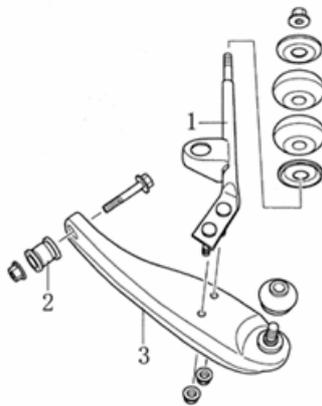
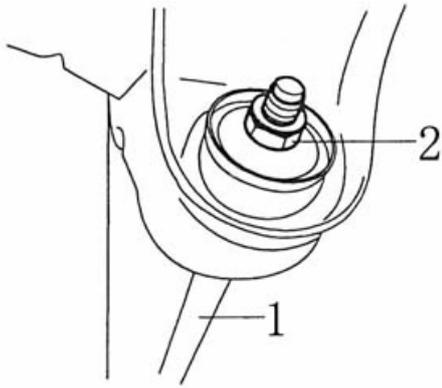

FIG.14-17
FIG.14-18
3 TENSION ROD AND LOWER ARM. (FIG.14-17)
- (1) Lift the vehicle, and then remove the wheel.
- (2) Remove the nut connecting tension bar and bracket (FIG.14-18).
- (5) After installing tension bar, rubber bush and washer to tension bar bracket according to FIG.14-17, tighten nut to specified torque (FIG.14-18).
- (6) Wheel installation can refer to wheel group.